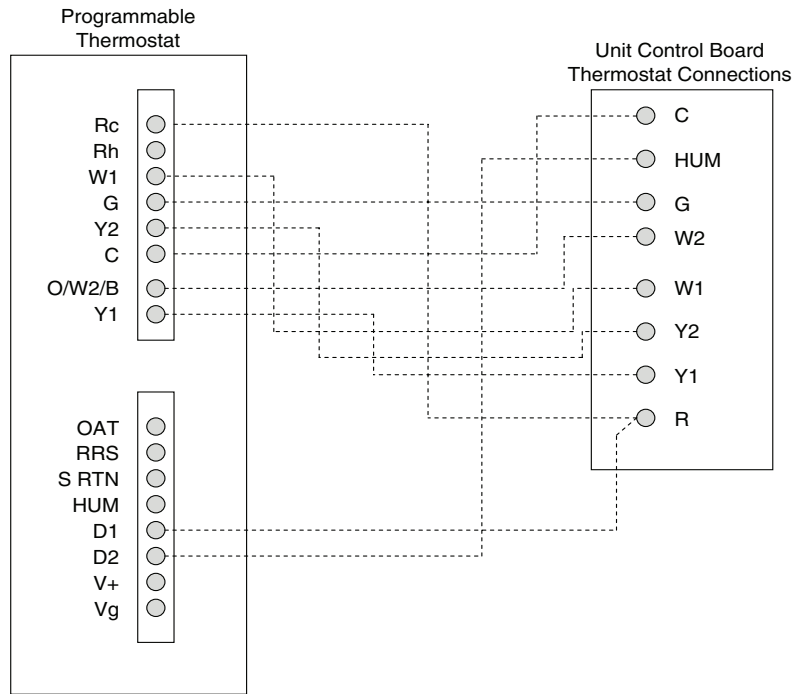

Fig. 40 — Typical Rooftop Unit with Humidi-MiZer Adaptive Dehumidification System and Edge® Pro Thermidistat Device
3. The Thermidistat has dry contacts at terminals D1 and D2 for dehumidification operation (see Fig. 40). Connect D1 to